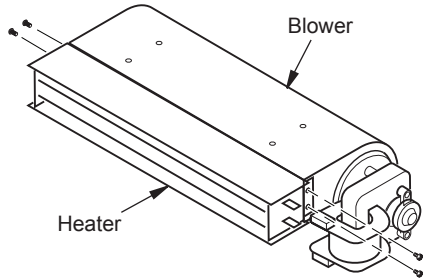

Figure 19 - Removing Heater from Blower
3. Remove 4 screws from side of heater, see (Figure 19).
4. Remove 4 screws securing heater to blower (see Figure 19).